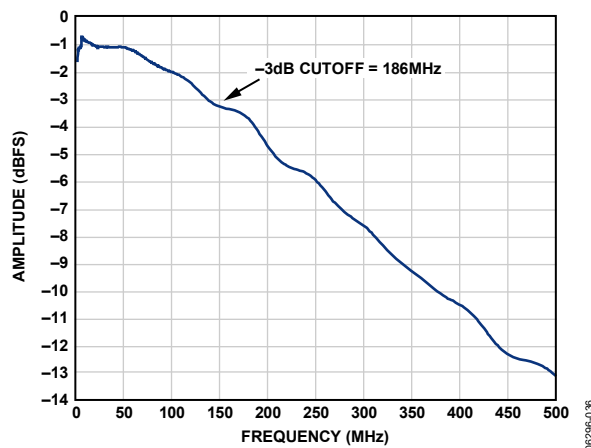

Figure 61. Evaluation Board Full Power Bandwidth
- **AIN:** The evaluation board is set up for a transformer-coupled analog input with optimum 50  $\Omega$  impedance matching out to 150 MHz (see Figure 61). For more bandwidth response, the differential capacitor across the analog inputs can be changed or removed. The common mode of the analog inputs is developed from the center tap of the transformer or AVDD\_DUT/2.